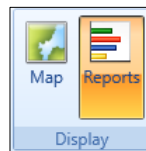

Figure 5-42 Metric Results Tab – Display Ribbon Group
1. Click the *Reports* button in the *Display* ribbon group (Figure 5-42).